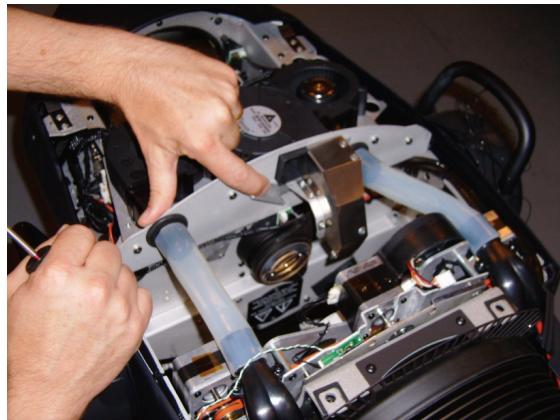

Figure 8
10. See Figure 8. Release the head lock, tilt the head over so that you can access the head from the bottom and reapply the head lock. Remove the two Torx 20 screws that retain the metal air duct that directed cooling air to the projection (gobo/color wheel) module, and remove the air duct. Keep the air duct for possible re-use if you return the fixture to standard MAC III Profile spec.